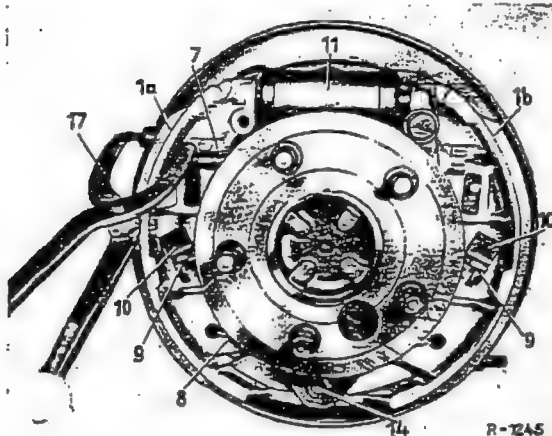

Fig. 42-9/6
1. Detach the upper and lower return springs (7) and (8) (Figs. 42-9/5 and 42-9/6).